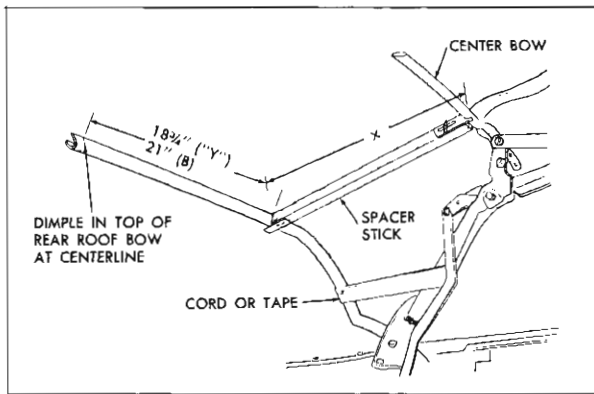

Fig. 21-35 Spacer Stick Installed
14. Lock top to windshield header. Install radius end of each adjustable spacer stick to fit against center roof bow. Install opposite end of spacer stick so that metal plate fits under rear roof bow (Fig. 21-35). Spacer stick should be installed along inboard
15. Temporary tie or tape rear bow to rear side roof rails. Fig. 21-35. Detach nylon webbing, side stay pads and back curtain assembly from rear bow.
17. Using chalk, or other suitable material, mark ends of rear and rear quarter trim sticks on vinyl surface of back curtain material (Fig. 21-35). Reference marks for trim sticks should be transferred to new back curtain material when step 8 of installation procedure is performed.
1. If new top is being installed but it was impossible to perform step 14 of removal procedure, preset spacer sticks to shortest length and install between center and rear roof bow (Fig. 21-35). Adjust sticks so that
dimension "X" in Fig. 21-35 (measured along spacer stick from front upper rolled edge of rear roof bow to center of center bow) is as follows: